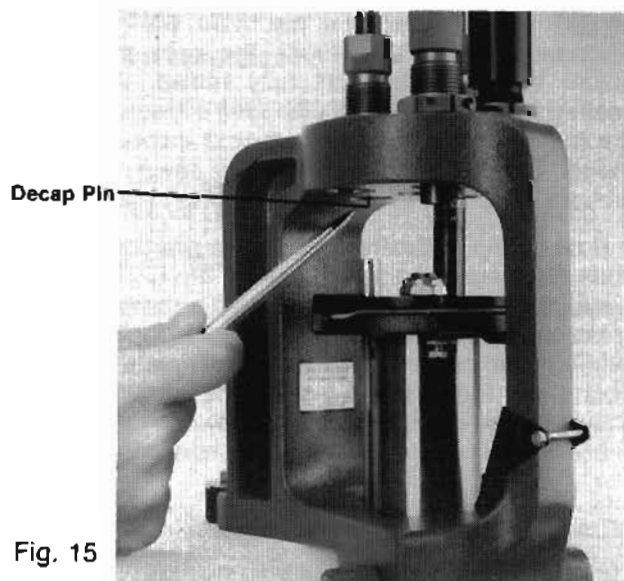

Fig. 15
**Size/Depriming Die** — Thread the size/depriming die into the press at Station One. Adjust the decapping spindle so the decap pin extends slightly below the shell plate when it is raised all the way (Fig. 15). This will insure complete removal of the spent primers. The spent primers will drop down the brass tube into the plastic bottle below. Note: If you don't hear the primers drop, stop and look. A new primer will not seat if the old one is still in the case, and the shell plate may not rotate.